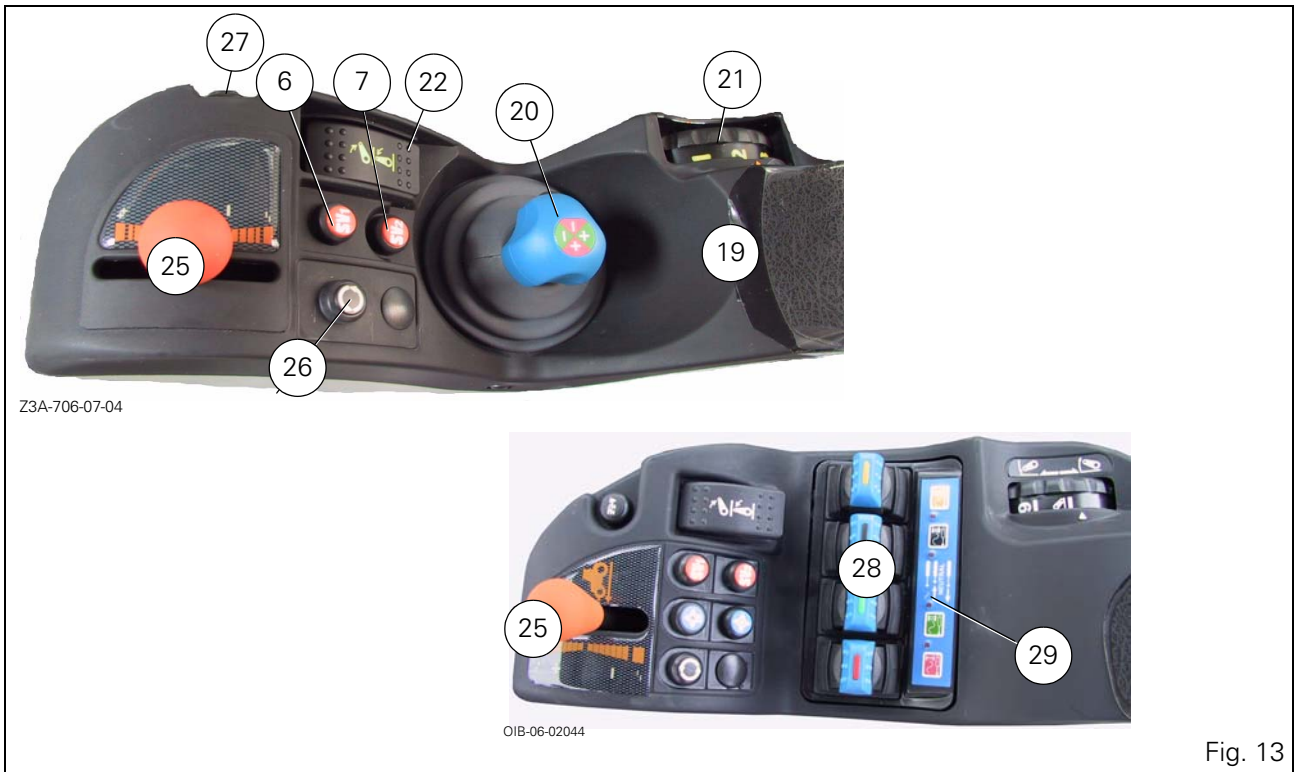

Fig. 13
- 20. 4-function control Joystick (separate or combined). (Fig. 13).
- 28. 4 "SMS" hydraulic valve controls (FingerTip option) (Fig. 13). (see Chapter 4.14.8).